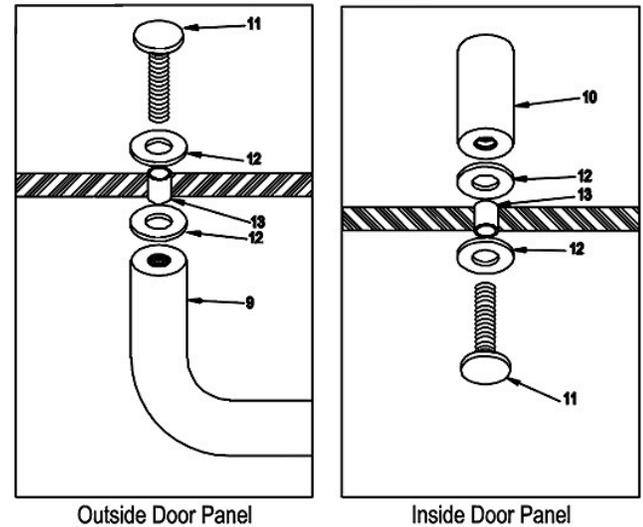

FIGURE 3
Place a nylon towel bar/pull washer on the towel bar/pull screw (11) and secure towel bar in place on both ends. Install the pull the same way the towel bar was installed. Use hole in fastener to tighten (See Figure 3).
10. Secure bumpers (4) in place with 6-32 x 1/2" screw SMS (5).